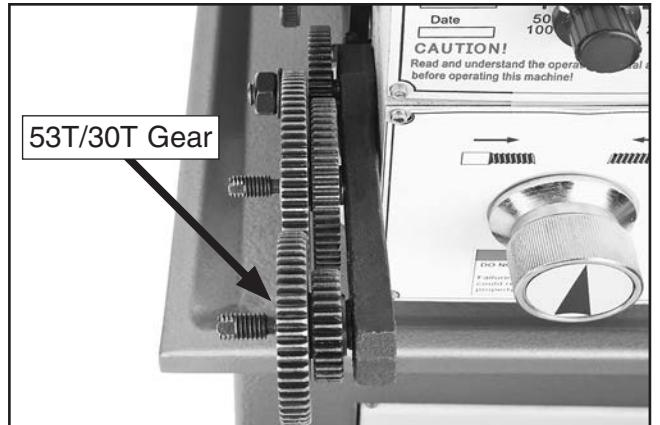

Figure 85. 53T/30T gear installed on upper shaft.
19. Put a dab of grease on upper shaft, then slide 53T/30T gear on, as shown in **Figure 85**.